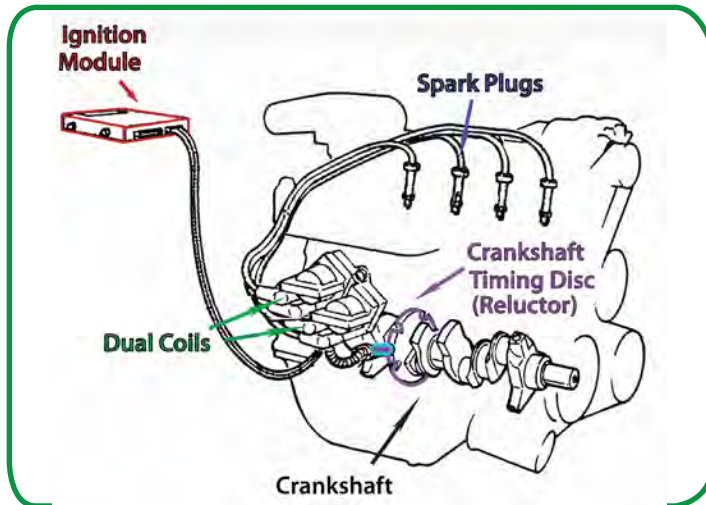
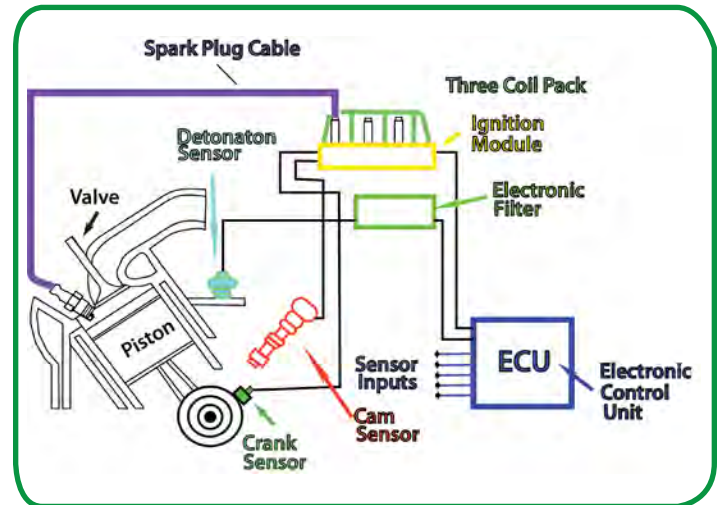

Figure 7-9. Distributorless ignition system using a magnetic crankshaft position sensor (CKP).
Figure 7-10. Distributorless igniton system using crankshaft (CKP) and camshaft (CMP) positon sensors
Distributorless Ignition System (DIS) have electronic spark advance controls but do not have a separate distributor. Refer to figure 7-9. A Crankshaft Position Sensor (CKP) signals crankshaft speed, and a Camshaft Position Sensor (CMP) signals piston position to an ignition module. Refer to figure 7-10. The Ignition Module (IM) or Electronic Control Module (ECM) uses this information to deliver a spark at the correct time.